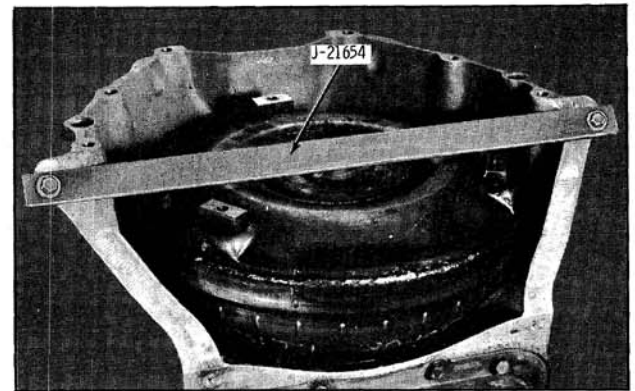

Fig. 6-550 Converter Holding Tool
4. Install Converter Holding Tool J-21654. (Fig. 6-550)